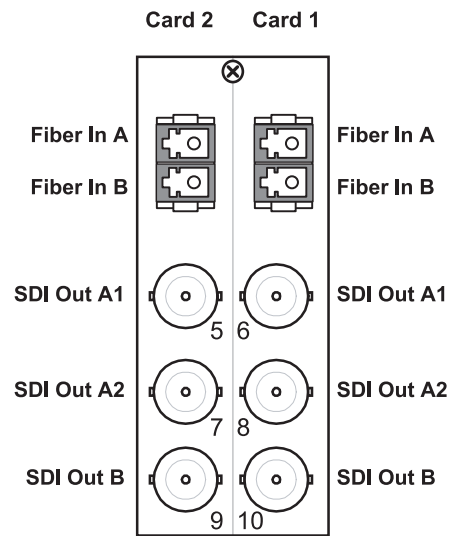

Figure 2.5 Cable Connections for the 8320AR-045 Rear Module
- **8320AR-045** Split Rear Module (**R2S-6603**) — Each card occupies one slot and provides two optical inputs, and three SDI outputs. Refer to **Figure 2.5**.